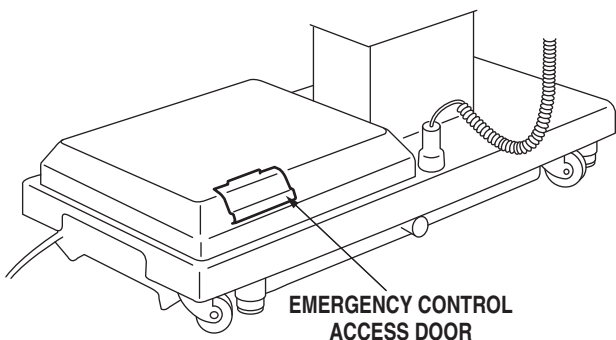

Figure 2-19. Emergency Controls Location
a. The emergency back-up control switches are located under the access door on the service access cover in the table base. See figure 2-19.